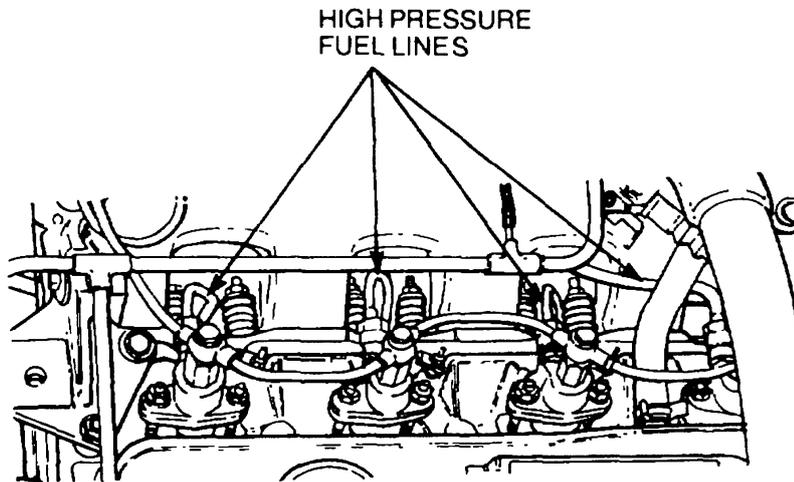

Figure 24 High Pressure Fuel Lines Removal
- b. Crack open the nut securing the line to the injector to relieve residual pressure and then loosen the nut completely (Figure 24).